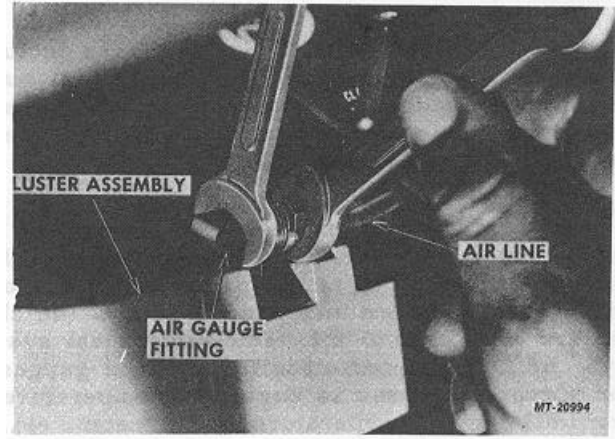

Fig. 5 Removing Air or Vacuum Lines
5. Unscrew air or vacuum lines from fittings (Fig. 5) on back of air or vacuum gauges. Two gauges are used with air braked trucks --one gauge only with vacuum (hydraulic) braked trucks.
- Mechanical type air gauges (Fig. 9) are front serviceable after removing air line fittings from rear of cluster (Fig. 5).